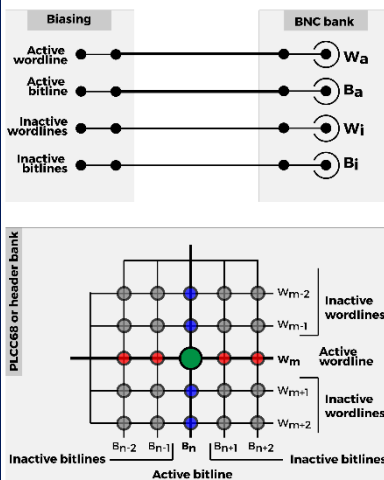

Figure 6: Live: External BNC session mode board connectivity.
2. **Live: External BNC** – in this mode of operation your device under test should be connected to the instrument through the BNC terminals. The board applies stimuli and reads out data exclusively through the BNC terminals (Figure 6). In the Crossbar Panel the target device appears as address [W=1, B=1]. **WARNING:** Please ensure no package is connected in the PLCC68 holder or through the header bank.